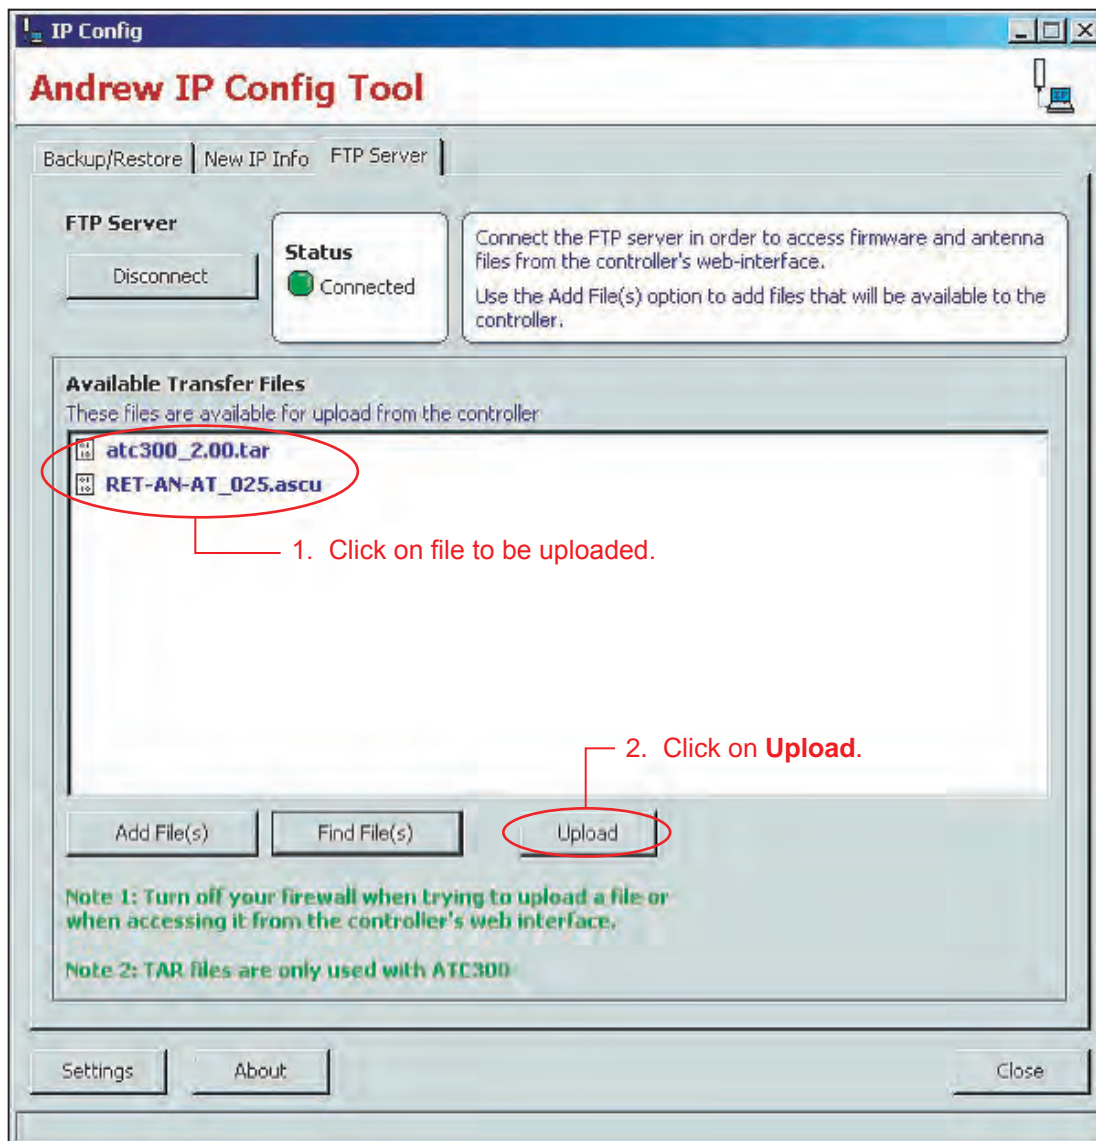

Figure 9-7. Files Ready For Upload To The Controller Shown.
Note that uploaded files will have a rectangular symbol shown to the left, replacing the check mark, as shown in Figure 9-7 on the next page.
1. Click on the firmware file that is to be uploaded (Figure 9-7). Only one file can be uploaded at a time.
2. Click on the **Upload** button (Figure 9-7).